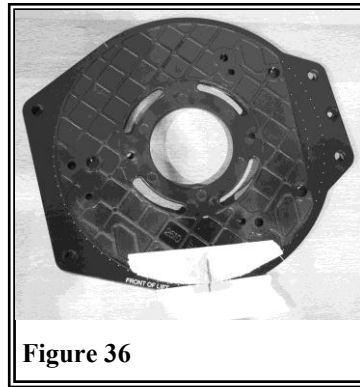

Figure 36
4. Centre the router sub base on the blank plate, aligning the two marks made in step 1. (See Figure 36) and centre the sub base to the engraved rings on the blank plate.